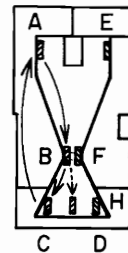

Fig. 6(b) Movement of the pawl mounted on the cam when viewing the plunger from above.
- 2) While the revolution of the worm pulley permits the worm gear and the cam to rotate, the pawl mounted on the cam as illustrated in Fig. 6 revolves inside the plunger (i.e. the part colored in red), while receiving force G as explained above.